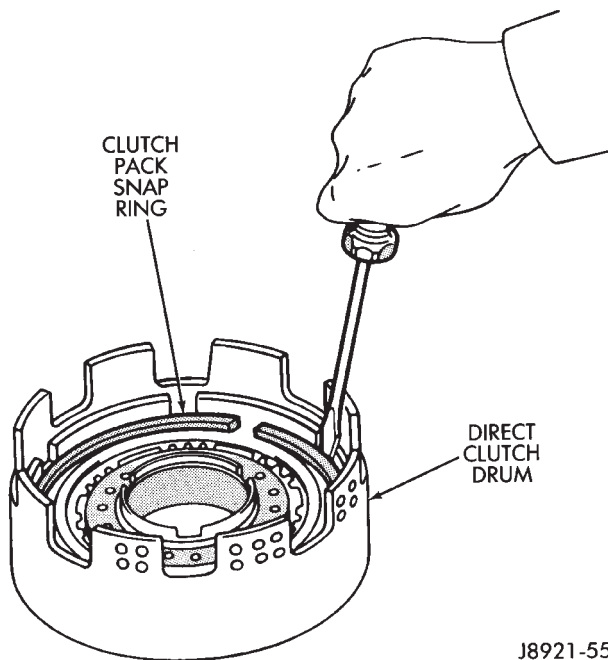

Fig. 5 Removing Clutch Pack Snap Ring
(8) Remove clutch pack snap ring and remove retainer and clutch pack from drum (Fig. 5).